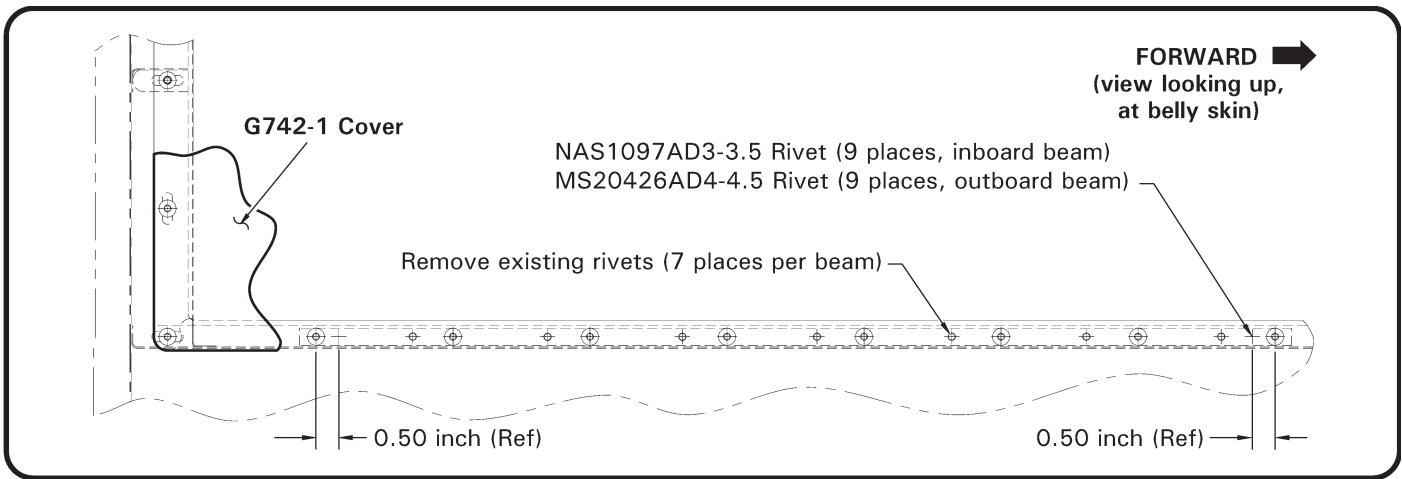

FIGURE 3
6. Refer to Figure 3. Remove (14) rivets in belly skin where A738-40 gang channels will be installed. Clean up debris.